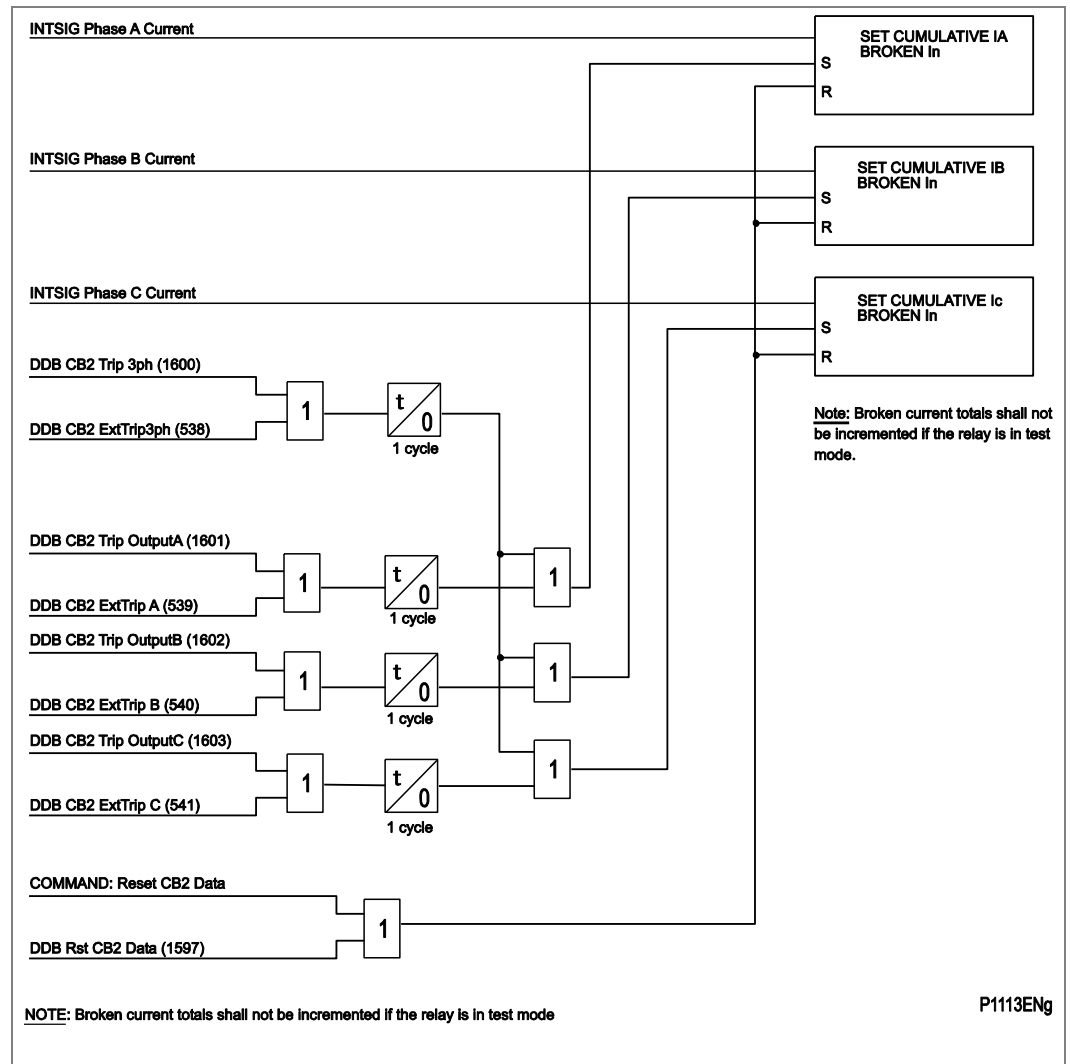

Figure 110 - CB2 condition monitoring - broken current
- Figure 110 - CB1 condition monitoring - operation time